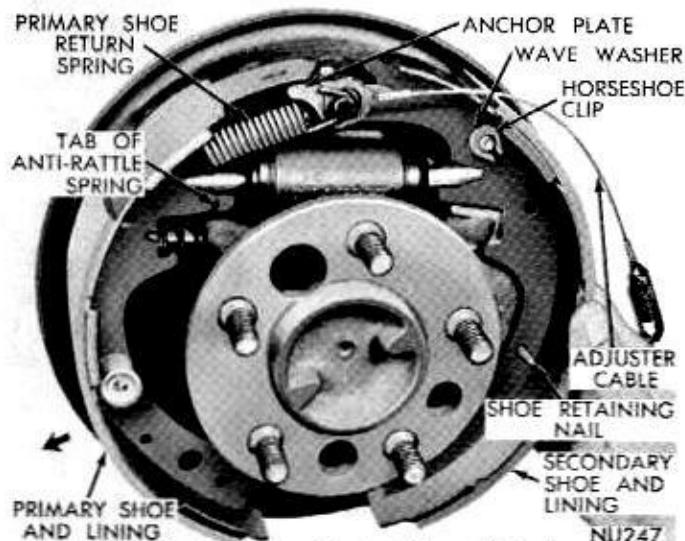

Fig. 10—Installing Brake Shoes (Left Rear)
(4) Slide primary shoe into position and engage with push rod and free end of strut. Install anchor plate over anchor, then install eye of adjuster cable over anchor. (Fig. 10).